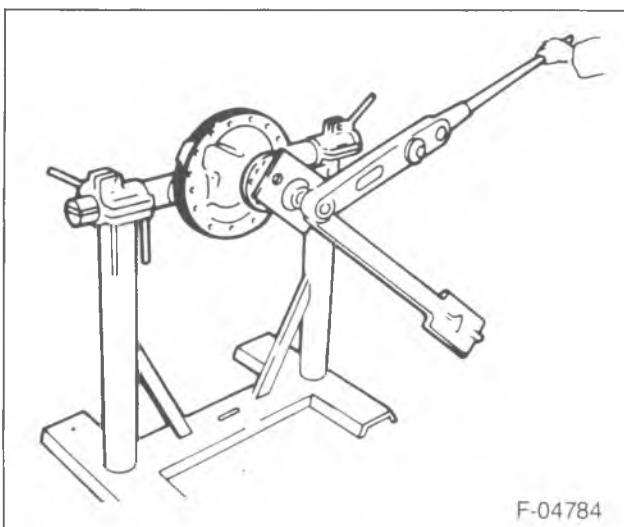

Figure 17—Installing the Pinion Nut
- 8. Pinion washer (61) and nut (62) using J 3453 to hold the pinion (figure 17).
12. Pinion washer (61) and a new nut (62) using J 3453 to hold the pinion (figure 17).
- Nut (62) to 325 N·m (240 ft. lbs.).